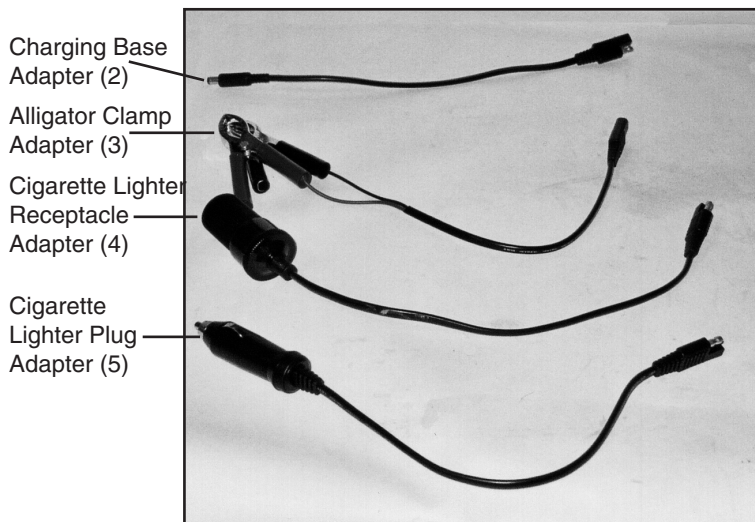

Figure 2
3. Identify the Adapter charger connection you need. **See Figure 2.**